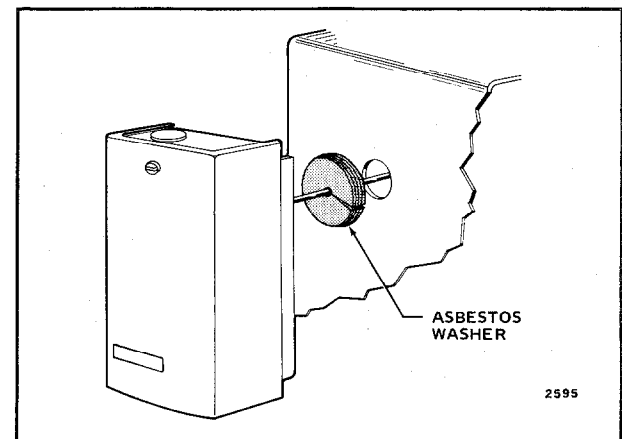

FIG. 4—USE OF ASBESTOS WASHER FOR HEAT BARRIER.
Locate the control on a solid area of the furnace casing or jacket or on the discharge plenum. The stand-off plate furnishes a heat barrier, and a 1/4 inch [6.4 mm] thick asbestos washer (Part No. 106638) is provided to slip over the capillary for air seal between the element clearance hole and the diaphragm power head (see Fig. 4). Since the ambient temperature rating is 190 F [88 C] at the switches, this heat barrier should be adequate for all normal applications.
5. Insert the element into the element opening and slip the asbestos washer over the capillary (Fig. 4). With the 2 screws provided, securely fasten the control to the furnace casing.